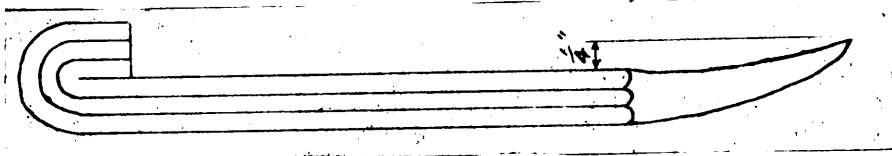

Figure 3.
4. Heat pointed end to cherry red and put about  $\frac{1}{4}$ " bend in the drawn out portion. (Figure 3).